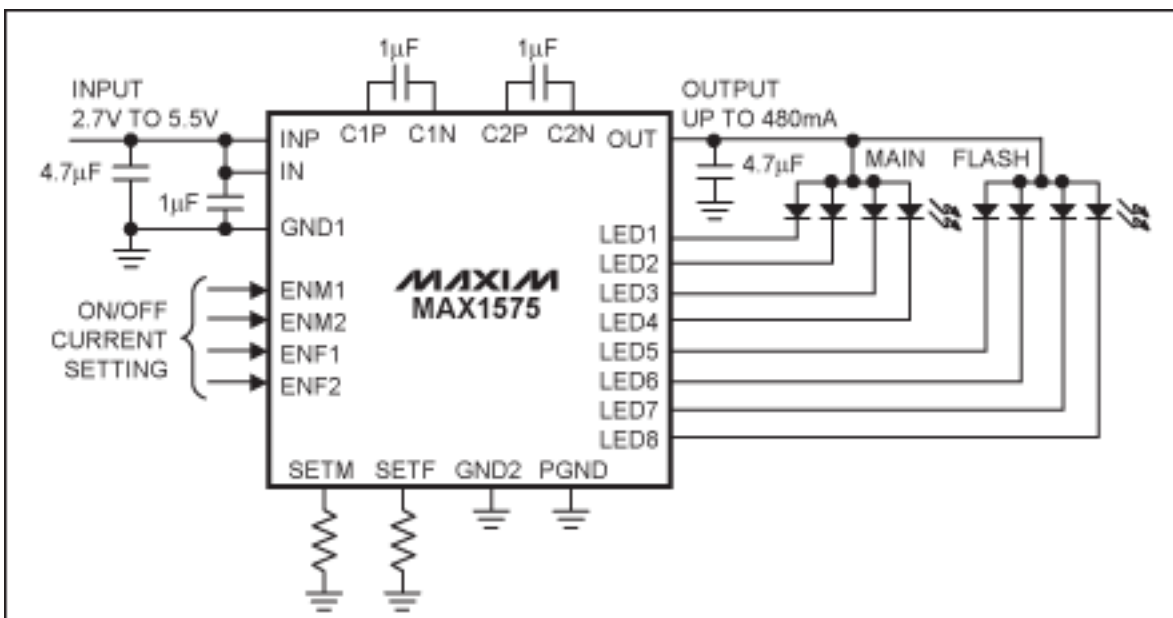
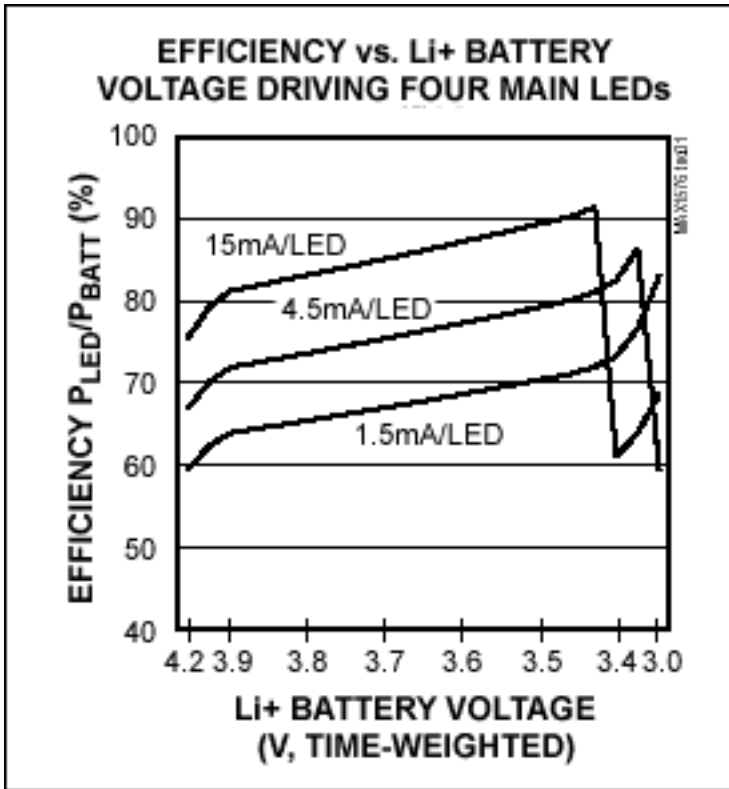

Figure 9. Integrated charge pump with two groups of LED current sources.
Figure 10. MAX1576 efficiency at typical lithium-battery voltages.
**Figure 9** shows a MAX1576 charge pump driving two groups of 4 LEDs at up to 480mA total output. The flash group allows up to 100mA per LED; each group has independent set current, serial pulse dimming, and 2-wire log dimming controls. With adaptive mode switching, average efficiency is 83% over the discharge curve of a single lithium battery (**Figure 10**). The MAX1576 is ideal for digital still-camera applications using LED flash.